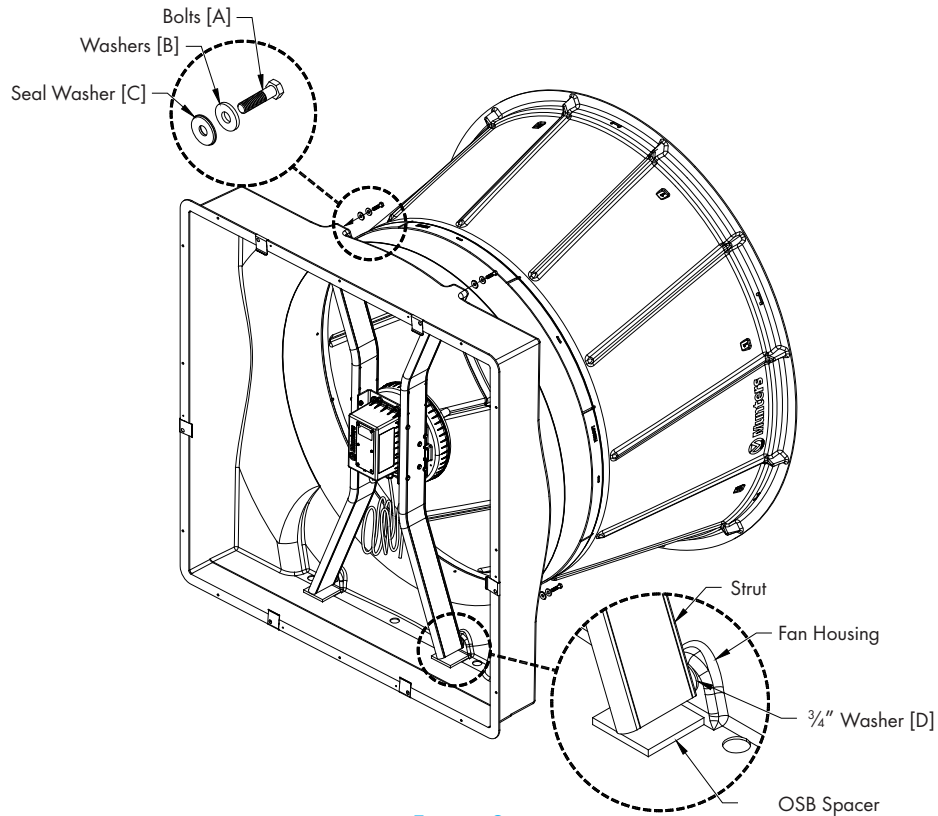

Figure 9
With the new Munters Drive Retrofit Kit in the fan fasten the struts of the Kit to the fan housing using (4) Bolts [A], Washers [B] and Seal Washers [C]. When fastening the bottom of the struts to the bottom of the fan housing make sure that the (2)  $\frac{3}{4}$ " Washers [D] are around the threaded insert. See Figure 9. FINGER TIGHTEN ONLY AT THIS TIME.